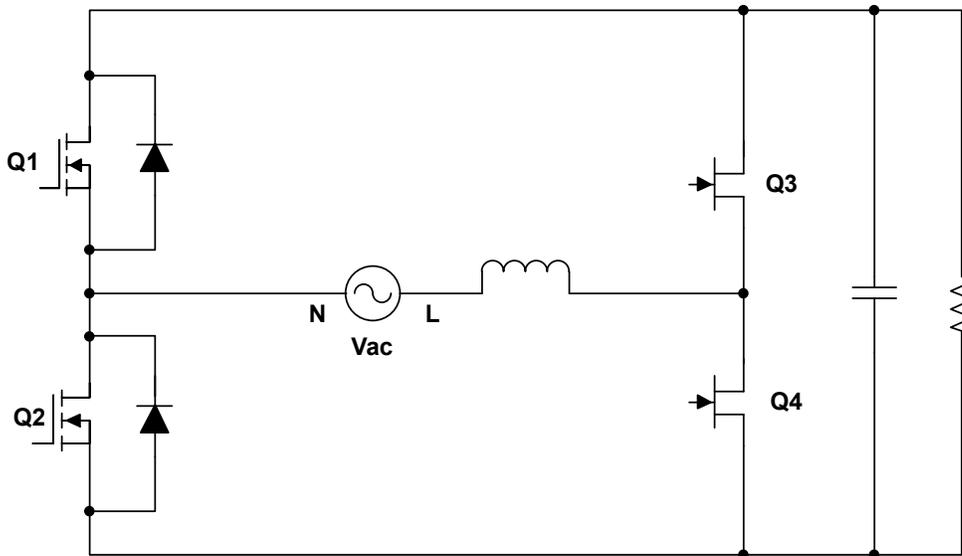

Figure 3-1. Basic Totem Pole PFC Circuit Structure
A basic totem-pole PFC structure is shown in Figure 3-1. Note that Q3, Q4 and the inductor consist of a boost converter. Based on VAC polarity, Q3 and Q4 alternately work as a PFC main switch or sync switch. During a positive VAC cycle, Q4 is the main switch, while Q3 works as a sync FET. The driving signals for Q3 and Q4 are complementary: Q4 is controlled by the duty cycle (D) from the control loop, while Q3 is controlled by $1 - D$. During a negative VAC cycle, the function of Q4 and Q3 is swapped where Q3 becomes the main switch, and Q4 works as a sync FET. The driving signals for Q3 and Q4 are still complementary, but Q3 is now controlled by D while Q4 is controlled by $1 - D$. Because of the reverse recovery issue, a regular MOSFET cannot be used in a continuous-conduction mode (CCM) totem-pole PFC, therefore, Q3 and Q4 need to be gallium nitride (GaN) FETs, which have no reverse recovery. Q1 and Q2 diodes are paralleled with regular MOSFETs to further improve efficiency.